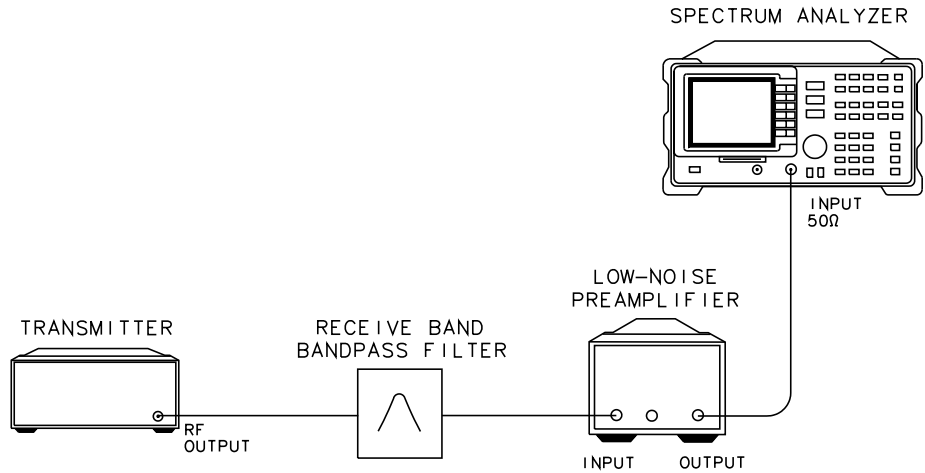

Figure 19 Test Setup for Transmitter Output RF Spectrum Due to Modulation - RX Band
- 3 Connect the receive-band BPF and the optional amplifier as illustrated in Figure 19 on page 63.